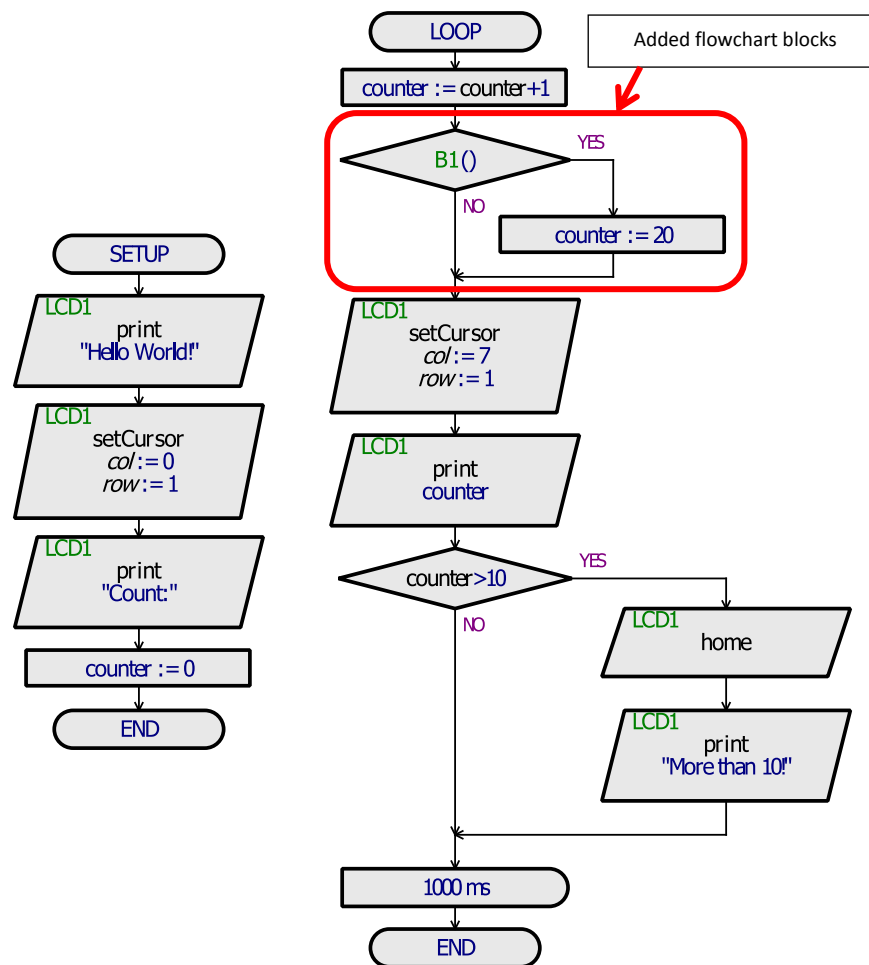

Figure 4-21: Final "variable" project flowchart
In order to update your flowchart so that it matches Figure 4-21, please complete the following steps:
2. Drag the button ("B1") onto the flowchart, so that it inserts a decision block (as depicted in Figure 4-21). Please see section 3.5 if you need a reminder on how to drag a button onto the flowchart.
3. Drag an assignment block onto the flowchart, placing and connecting it as depicted in Figure 4-21.
5. Swap the "Yes" and "No" on the decision block, so that it matches Figure 4-21.
however they are beyond the scope of this chapter. If the simulation does not behave as expected, then please carefully compare your flowchart to Figure 4-21 to make sure that they are exactly the same, and ensure that you are pressing the Grove button and not the Reset button (which is discussed in the next section).